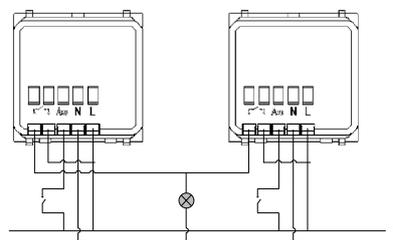
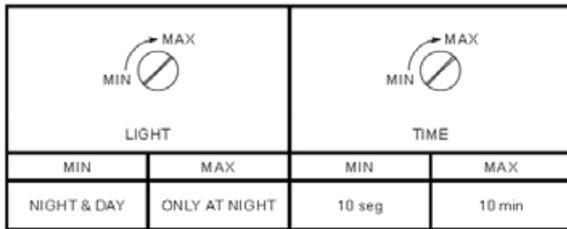

Figure 5: Parallel wiring diagram
Figure 6: Exploded view of the selection potentiometers for the selection of light and time thresholds.
4. To change the fuse, lift the switch, pulling softly along its edge (Fig. 5) and remove the fuse holder (Fig. 6).
To ensure that the detection of movement by any of the devices installed activates the load controlled by all of them, their outputs should be wired in parallel to the load. See wiring diagram in Figure 5.
The light set point selector (see Figure 6) enables the selection of the light threshold below which the detector will activate the load.
The load disconnection time is another important parameter that needs to be chosen. The set value will be based primarily on the type of application and the detector installed. The time can be chosen easily by turning the time selector potentiometer (see Figure 6).
The load disconnection time is another important parameter that needs to be chosen. The set value will be based primarily on the type of application and the area in which the detector is installed. The time can be chosen easily by turning the time selector potentiometer (see Figure 6).